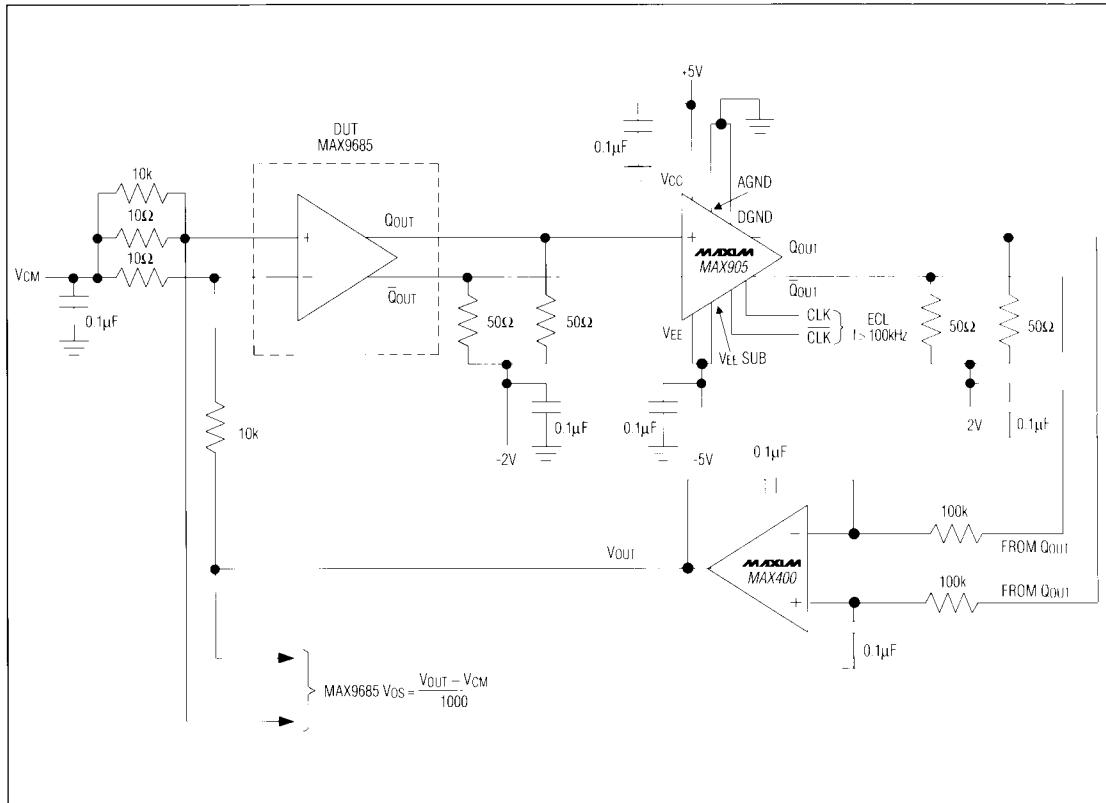

Figure 5. High-Speed Comparator  $V_{OS}$  Measurement Circuit
**High-Speed Comparator  $V_{OS}$  Measurement Circuit:** The circuit of Figure 5 shows the MAX905 used to measure input offset voltage ( $V_{OS}$ ) of the MAX9685, an ultra high-speed ECL comparator. When the MAX9685 comparator is put into a standard op-amp test loop, its high-frequency open-loop gain causes oscillations. However, in this application, the MAX9685's output feeds into the MAX905, which then feeds into a differential integrator. The MAX905's D flip-flop architecture breaks the feedback path that normally causes oscillations. The test loop forces the MAX9685's output to switch with a precise 50% duty cycle, thus